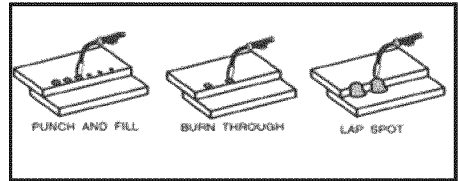

Fig. 13
- **BURN-THROUGH METHOD** welds two overlapped pieces of metal together by burning through the top piece and into the bottom piece. With the burn-through method, larger wire diameters tend to work better than smaller diameters. Wire diameters that tend to work best, with the burn-through method are 0.035 inch self-shielding flux-core wire. Do not use 0.030 inch self-shielding flux core wires when using the burn-through method unless the metal is VERY thin or excessive filler metal build-up and minimal penetration is acceptable. Always select the HIGH heat setting with the burn-through method and tune in the wire speed prior to making a spot weld. (Fig 13)
- **PUNCH AND FILL METHOD** produces a weld with the most finished appearance of the three spot weld methods. In this method, a hole is punched or drilled into the top piece of metal and the arc is directed through the hole to penetrate into the bottom piece. The puddle is allowed to fill up the hole leaving a spot weld that is smooth and flush with the surface of the top piece. Select the wire diameter, heat setting, and tune in the wire speed as if you were welding the same thickness material with a continuous bead. (Fig. 13)
- **LAP SPOT METHOD** directs the welding arc to penetrate the bottom and top pieces, at the same time, right along each side of the lap joint seam. Select the wire diameter, heat setting, and tune in the wire speed as if you were welding the same thickness material with a continuous bead. (Fig. 13)